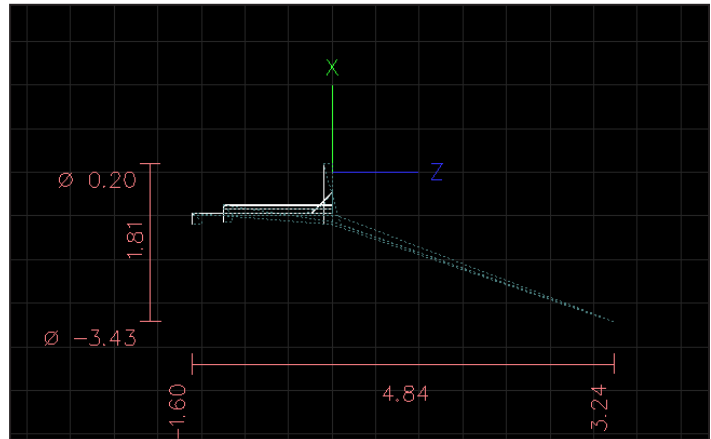

Figure 4.25
- Again, X values are negative for front tool post tools. Click *Append to File* on the *Chamfer* tab to add this code to the program. The tool path should now look like **Figure 4.25**.